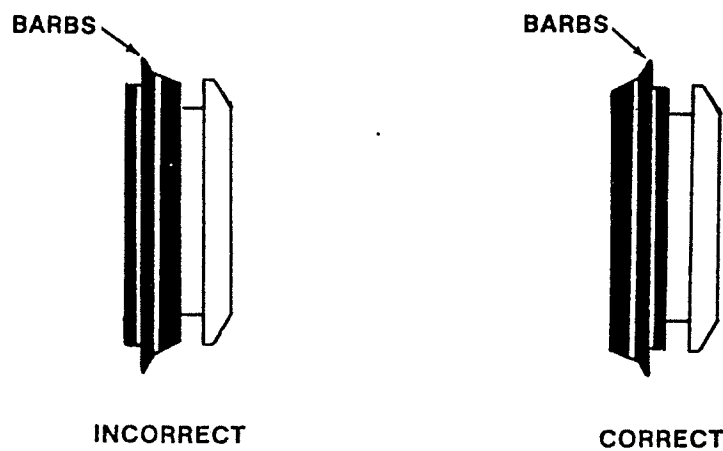

FIGURE 4
8. Check that the seal halves are properly assembled as shown in Figure 4.